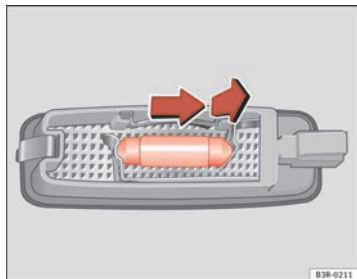

Fig. 242 Removing sunvisor light
- Remove the bulb, moving it in the direction of the arrow and outwards ⇒ fig. 242. ■